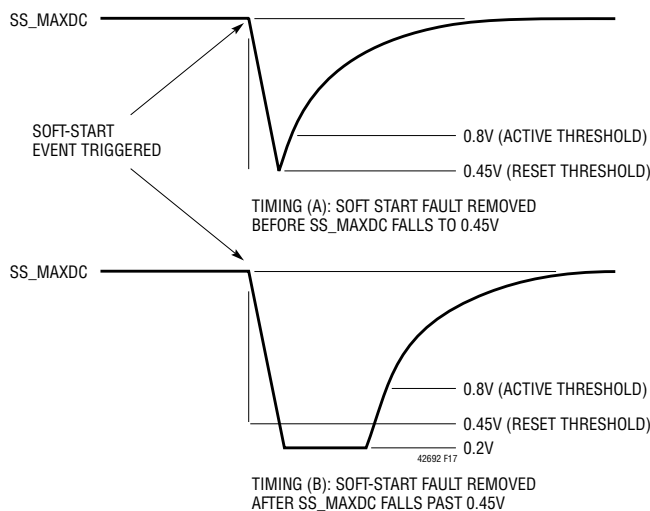

Figure 17. Soft-Start Timing
It can be seen in Figure 17 that two types of discharge can occur for the SS\_MAXDC pin. In timing (A) the fault that caused the soft-start event has been removed before SS\_MAXDC falls to 0.45V. This means the soft-start latch will be reset when SS\_MAXDC falls to 0.45V and SS\_MAXDC will begin charging. In timing (B), the fault that caused the soft-start event is not removed until some time after SS\_MAXDC has fallen past 0.45V. The SS\_MAXDC pin continues to discharge to 0.2V and remains low until all faults are removed.